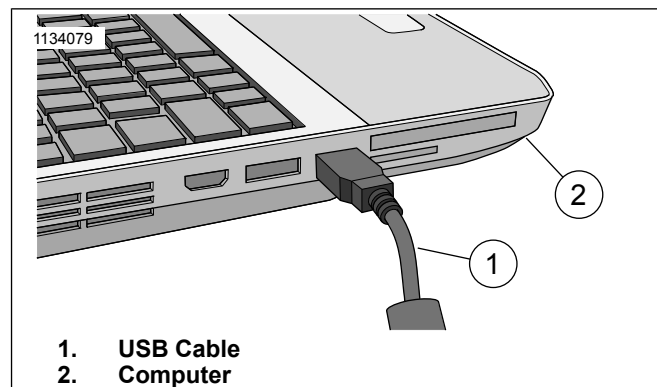

Figure 8. Connect USB to Computer
4. Figure 8 Connect computer interface cable.